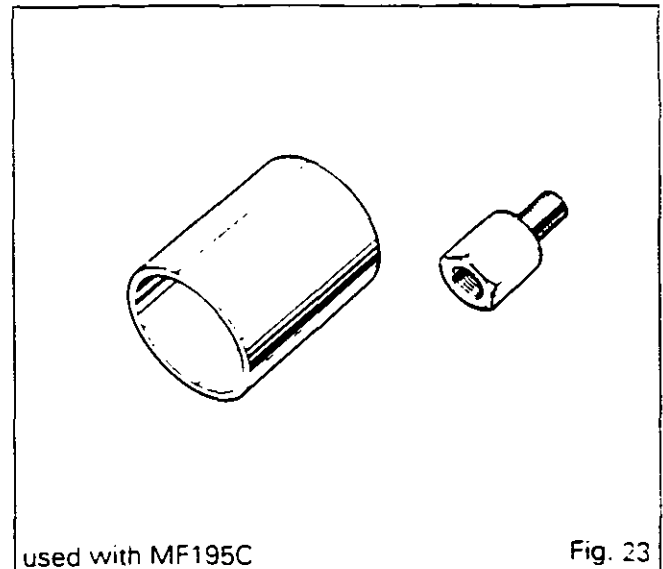

Fig. 23
- MF451B Swivel pin bearing remover (Fig. 23)
- MF451B3 Adaptor for remover diam M18 (Fig. 23)